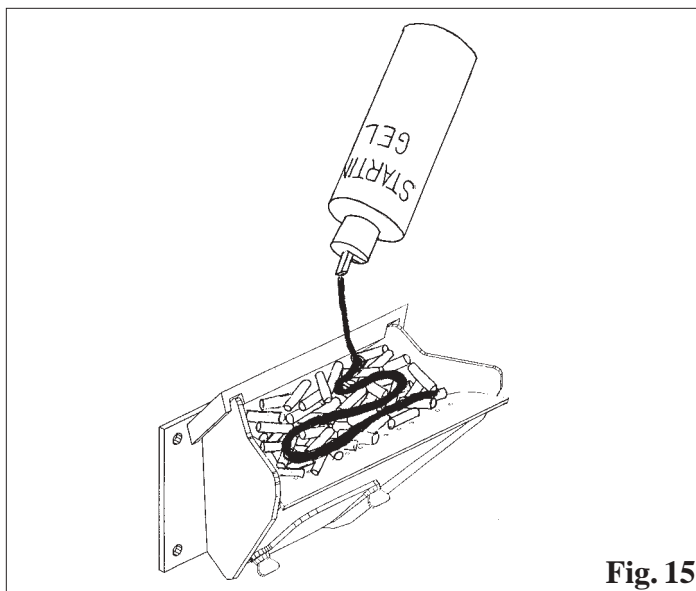

Fig. 15
10. Apply starting gel as shown in Fig.15